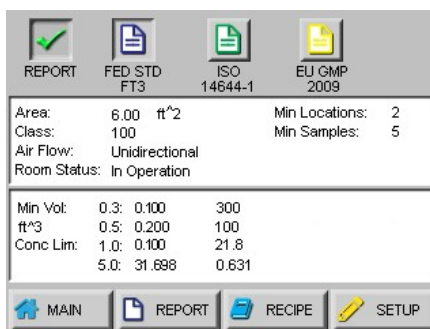

Figure 5-84 Reports Main Screen
2. Press REPORT ENABLE to turn on green check (Figure 5-84).